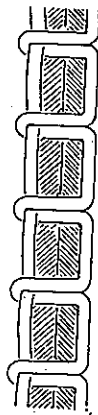

Fig. 11
- If tension of needle (upper) thread is too tight, or tension of bobbin (lower) thread is too loose, then needle thread will lie flat on top of fabric and bobbin thread will be pulled up to upper surface, being visible there in form of small knots (Fig. 11).